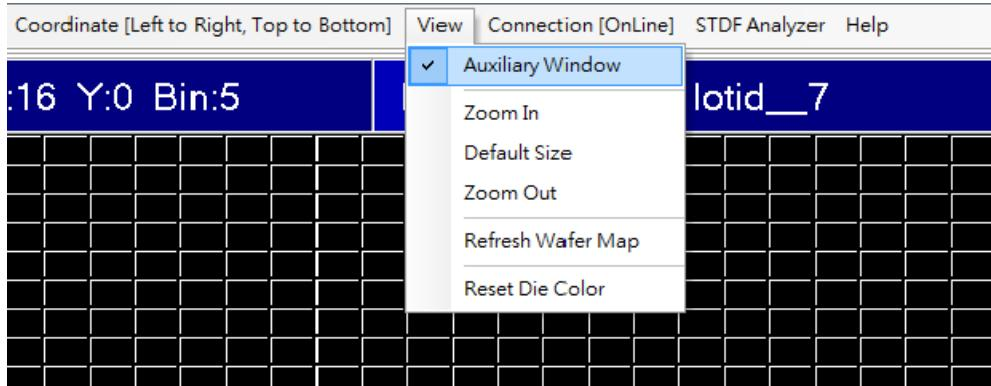

Figure 18-13 Hide the Auxiliary Window
- (1) Auxiliary window: Display or hide the auxiliary window (Figure 18-13).
- (2) Zoom in: Zoom in the wafer map of display.
- (3) Default size: The wafer map of display size is default.
- (4) Zoom out: Zoom out the wafer map of display.
- (5) Refresh Wafer Map: Refresh wafer map information.